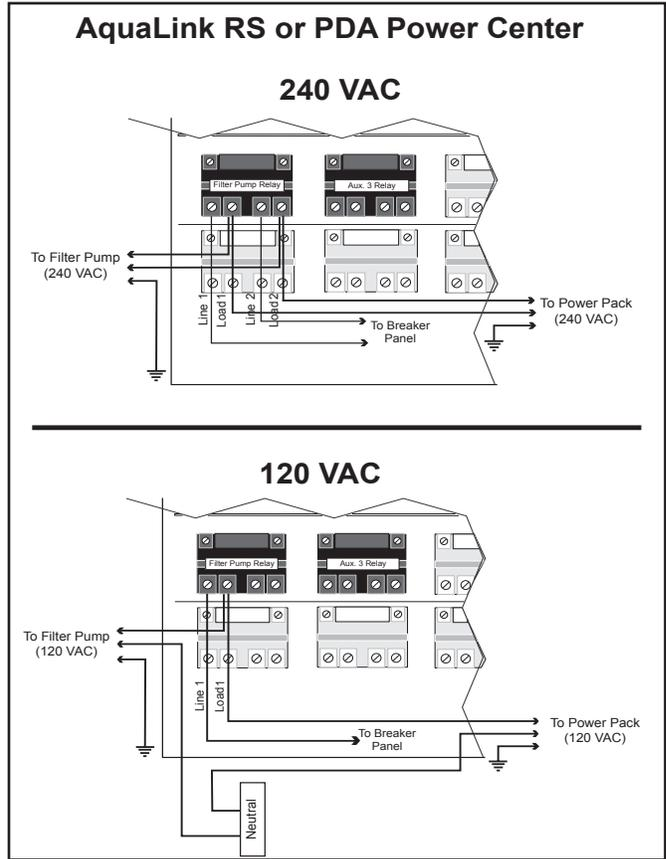

Figure 10. Wiring Power Pack to an AquaLink RS or PDA Power Center (240 VAC and 120 VAC)
7. In the AquaLink RS or PDA power center, wire the power pack directly to the LOAD SIDE of the filter pump relay (see Figure 10 and 12).
NOTE If the power pack does not connect to the controller, turn the power off to both devices and repeat steps 1 and 2. If the power pack still does not connect to the controller, re-check the wiring connections (see Figure 10) and the controller setting on the power pack (see Section 4.D).